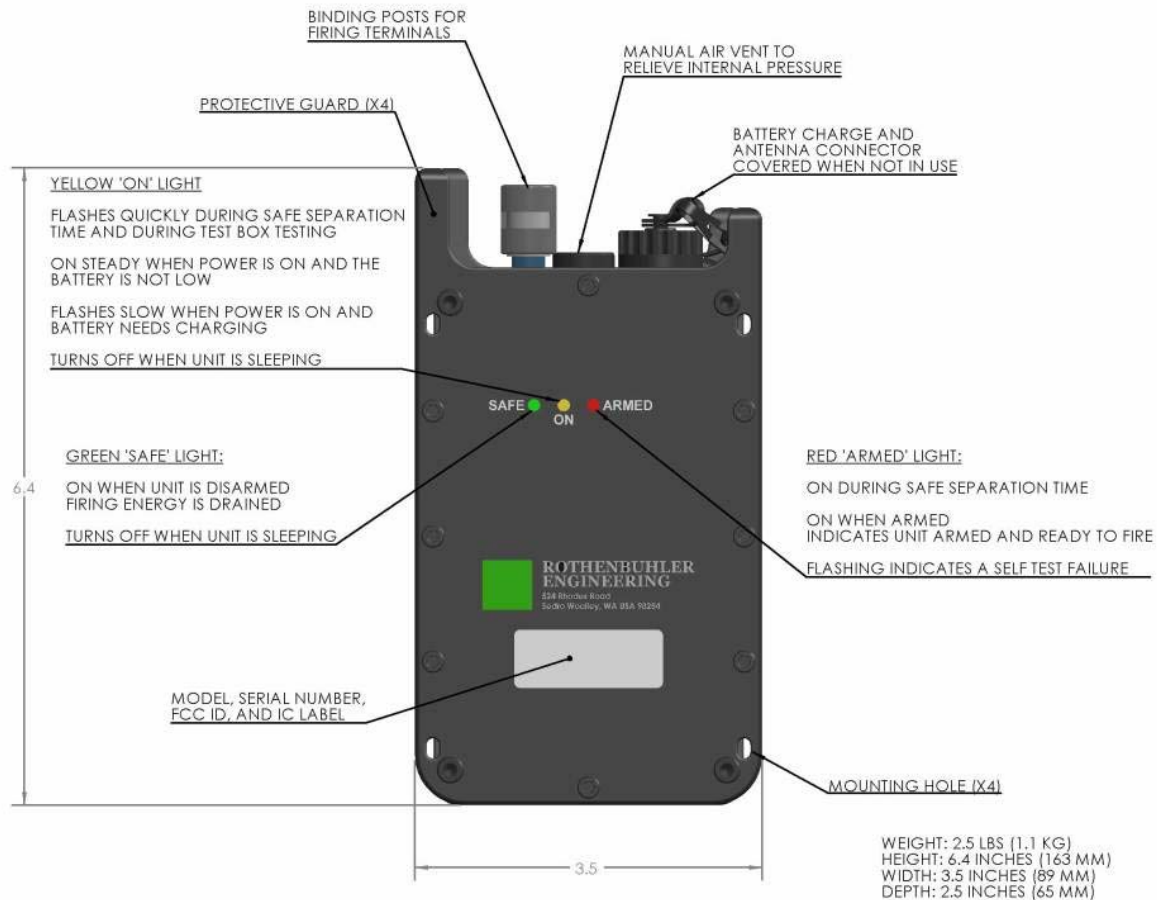

Figure 2-4 Electric Remote Unit
2.5.1. Figure 2-4 shows the external features of the Electric Remote Unit. The unit is sealed at the manufacturer or service depot and should not be opened during field activity.